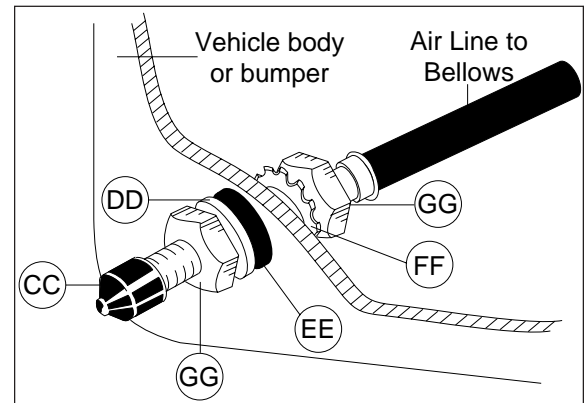

Figure 14
4. Place a $\frac{5}{16}$ " nut (GG) and a star washer (FF) on the air valve. Leave enough of the inflation valve in front of the nut to extend through the hole and have room for the rubber washer (EE), flat washer (DD), and $\frac{5}{16}$ " nut (GG) and cap (CC). There should be enough valve exposed after installation - approximately $\frac{1}{2}$ " - to easily apply a pressure gauge or an air chuck (Figure 14).
5. Push the inflation valve through the hole and use the rubber washer (EE), flat washer (DD), and another $\frac{5}{16}$ " nut (GG) to secure it in place. Tighten the nuts to secure the assembly in place (Figure 14).